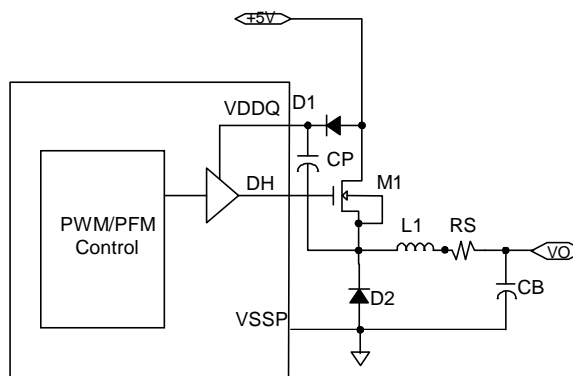

Figure 4. Charge Pump Configuration
Figure 4 employs a charge pump to provide gate bias. Capacitor CP is the charge pump deployed to boost the voltage of the SR41 output driver. When the MOSFET switches off, the source of the MOSFET is at -0.6V. VDDQ is charged through the Schottky diode to 4.5V. Thus, the capacitor CP is charged to 5V. When the MOSFET turns on, the source of the MOSFET voltage is equal to 5V. The capacitor voltage follows, and hence provides a voltage at VDDQ equal to 10V. The Schottky diode is required to provide the charge path when the MOSFET is off, and reverse bias when VDDQ goes to 10V. The charge pump capacitor(CP) needs to be a high Q, high frequency capacitor. A 1 μ F ceramic capacitor is recommended here.